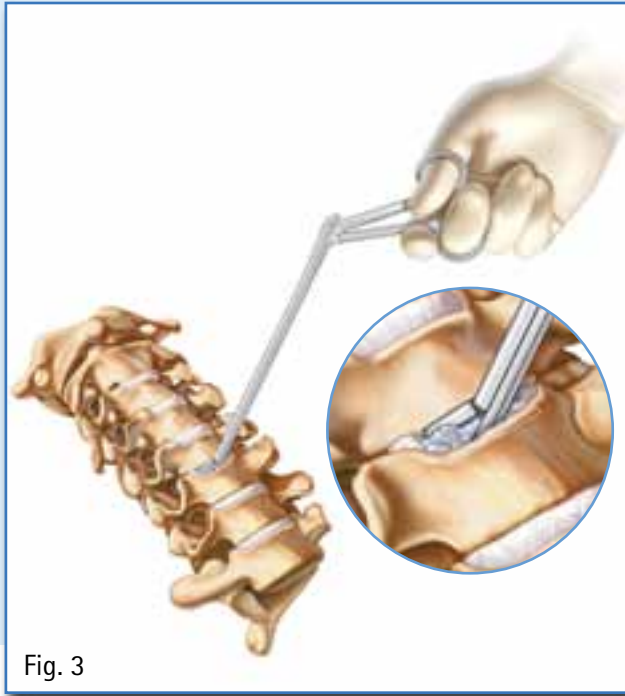

Fig. 3
- Perform a thorough discectomy. (Fig. 3)